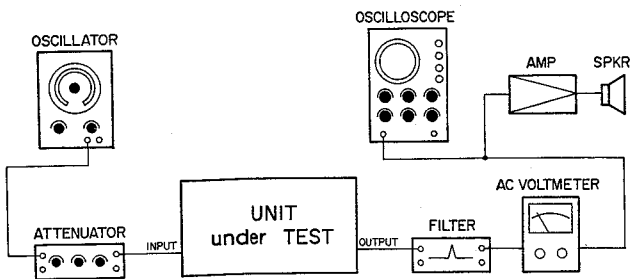

Fig. 7-5
- 1) Connect the measuring instruments as shown in Fig. 7-5. To check that erasing is effective, use a 1-kHz bandpass filter.
1) Connect the measuring instruments as shown in Fig. 7-5.